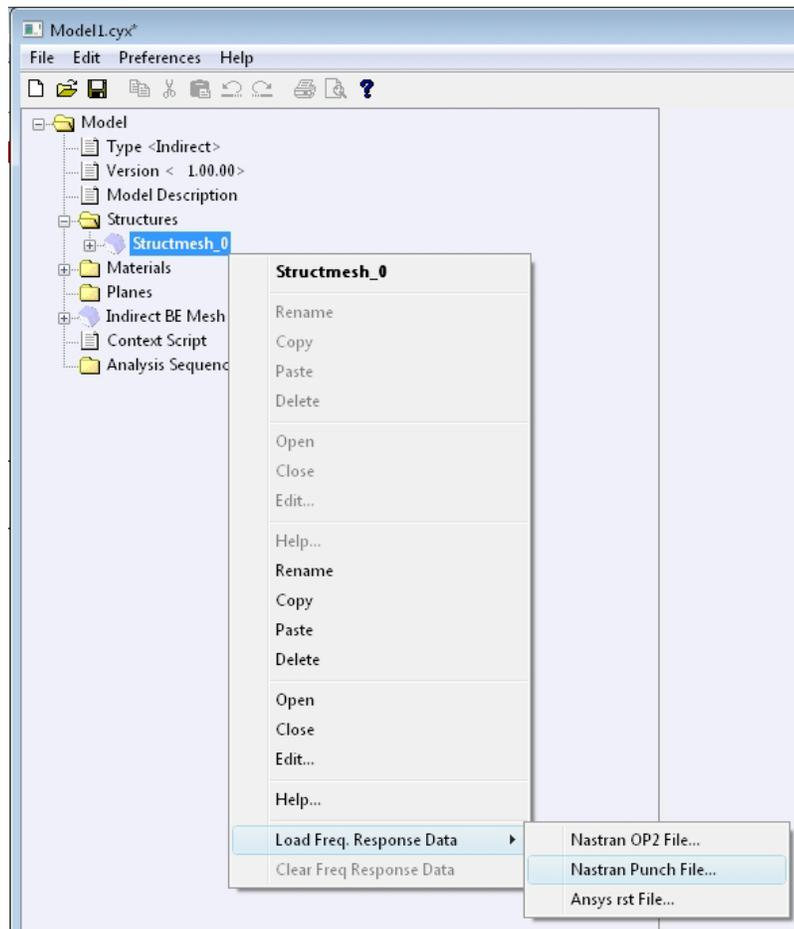

Figure A.30 Load frequency response data into Coustyx.
- Right-click on **Structmesh\_0** or <Struct Mesh Name> and select: **Load Freq Response Data** → **Nastran Punch File...** (as shown in Figure A.30). The other valid data formats from which frequency response data can be loaded into Coustyx are **Nastran OP2 File** and **Ansys rst File**.